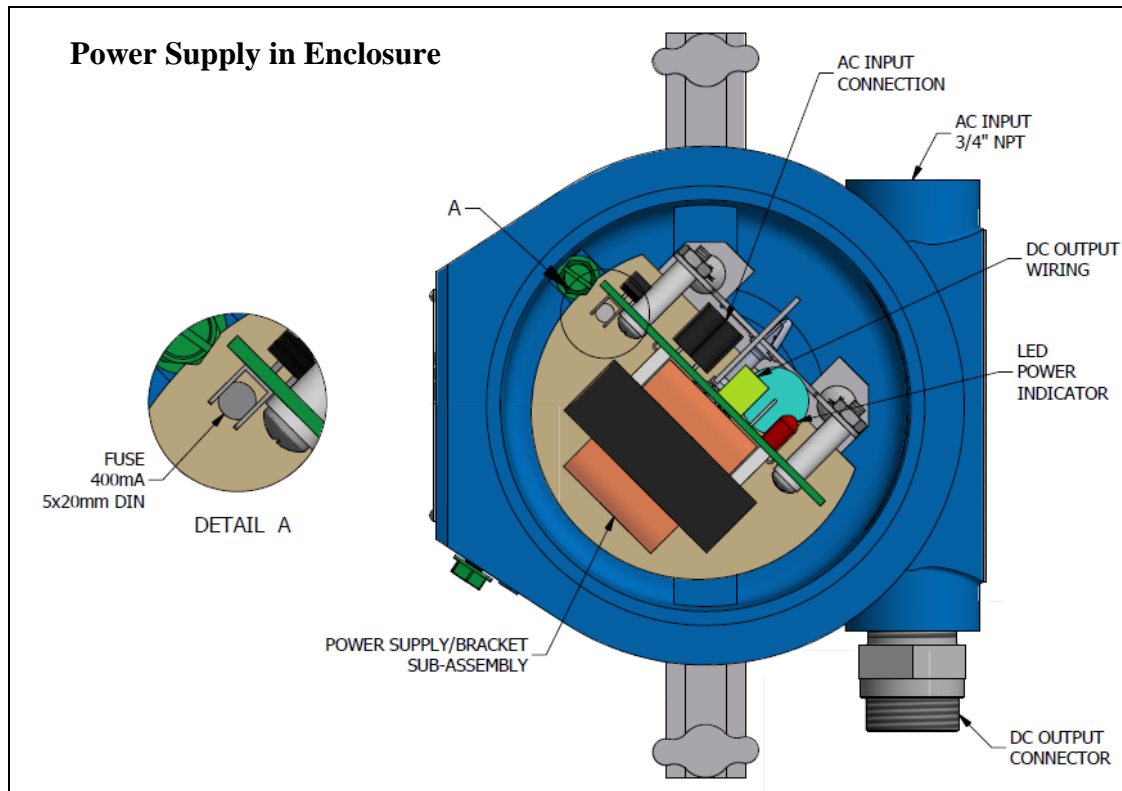

Figure 14
**NOTE: See Figure 14 on next page for component locations.**
- 10) Bench test unit by applying AC through AC Input Connector (ref. Figure 14).